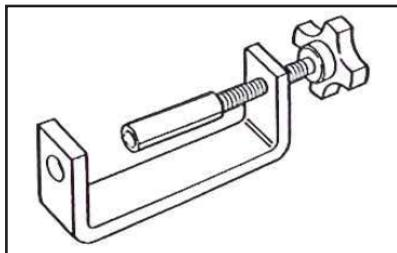

Fig. 2
5. Remove locknut (17) from slave piston adjusting screw (18) and back out screw until the slave piston is fully retracted.
6. Install the slave piston tool P/N 017397 (Fig. 2) with the adjusting screw fitted into the hole in the tool.